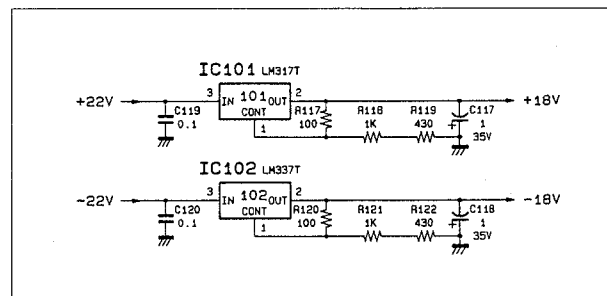

Fig. 8-4-10. ±18 V 3-terminal Regulator (PS-138 Board)
(1) and (2) are connected to the input side of the +12 V series regulator, and (3) is connected to the input side of the -12 V series regulator.
(4) and (5) use 3-terminal regulators provided with a CONT terminal, and are supplied with +22 V and -22 V, as shown in Fig. 8-4-10.. The output voltage can be varied by changing R117 to R119 and R120 to R122 which are connected to the respective CONT terminals.
(6) is on the RE-32 board. It generates +5 V from +12 V. It is used mainly as a power supply for the logic ICs.